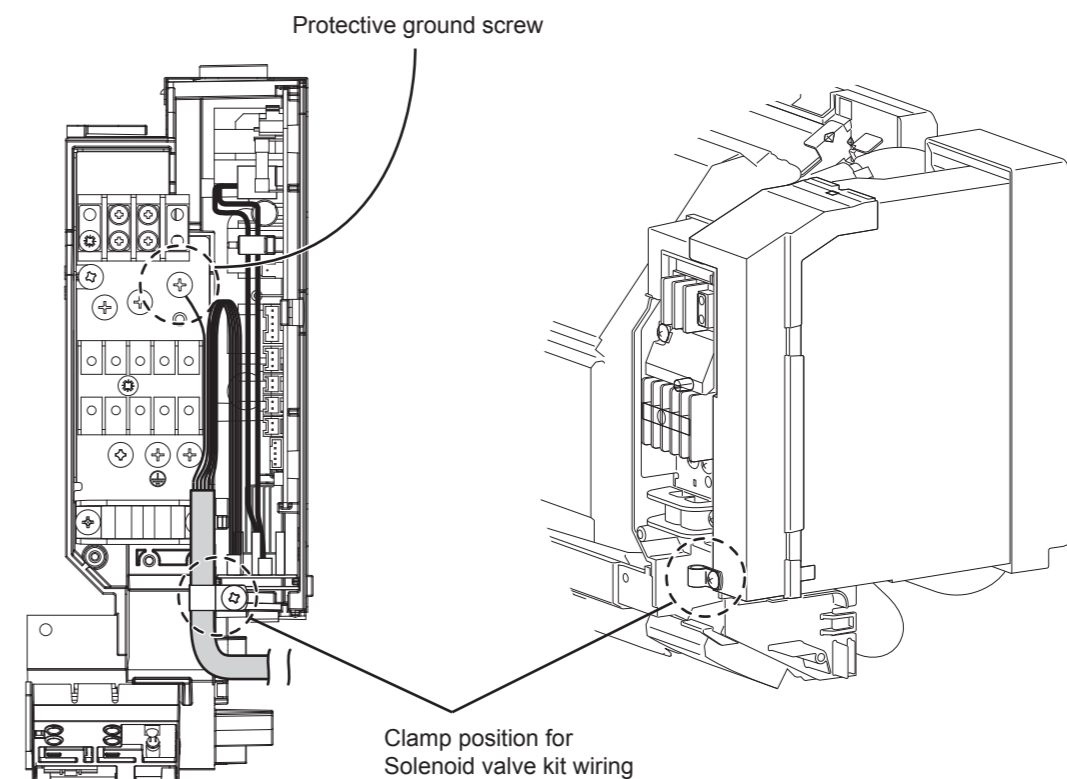

Fig.8
- Clamp the wiring from the solenoid valve kit. (Fig.8)